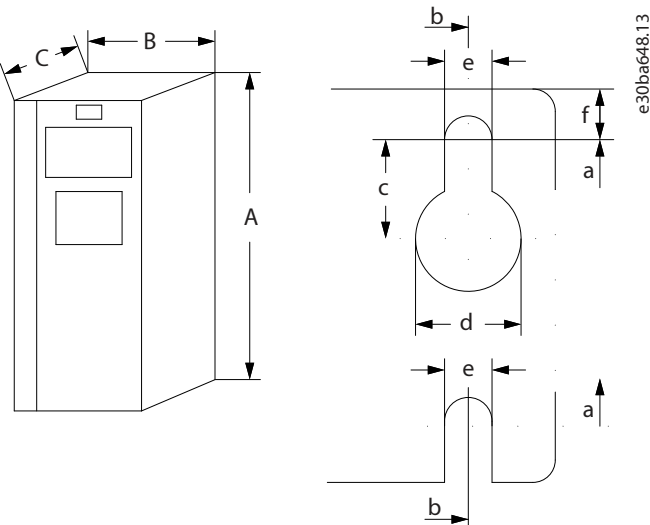
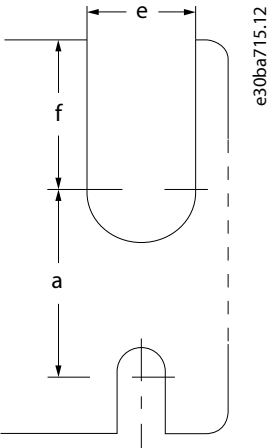

Figure 25: Top and Bottom Mounting Holes
Figure 26: Top and Bottom Mounting Holes, Enclosure Sizes B4, C3, and C4
1) See Figure 25 and Figure 26.